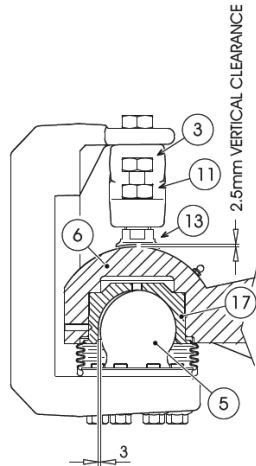

Figure 6.13
- ✓ Adjust the adjustment screw (3) until a 0.3 - 0.5 mm vertical clearance between the guard disk (13) and the ball cup (6) is reached. Lock setting with counter nut (11) (Figure 6.13).